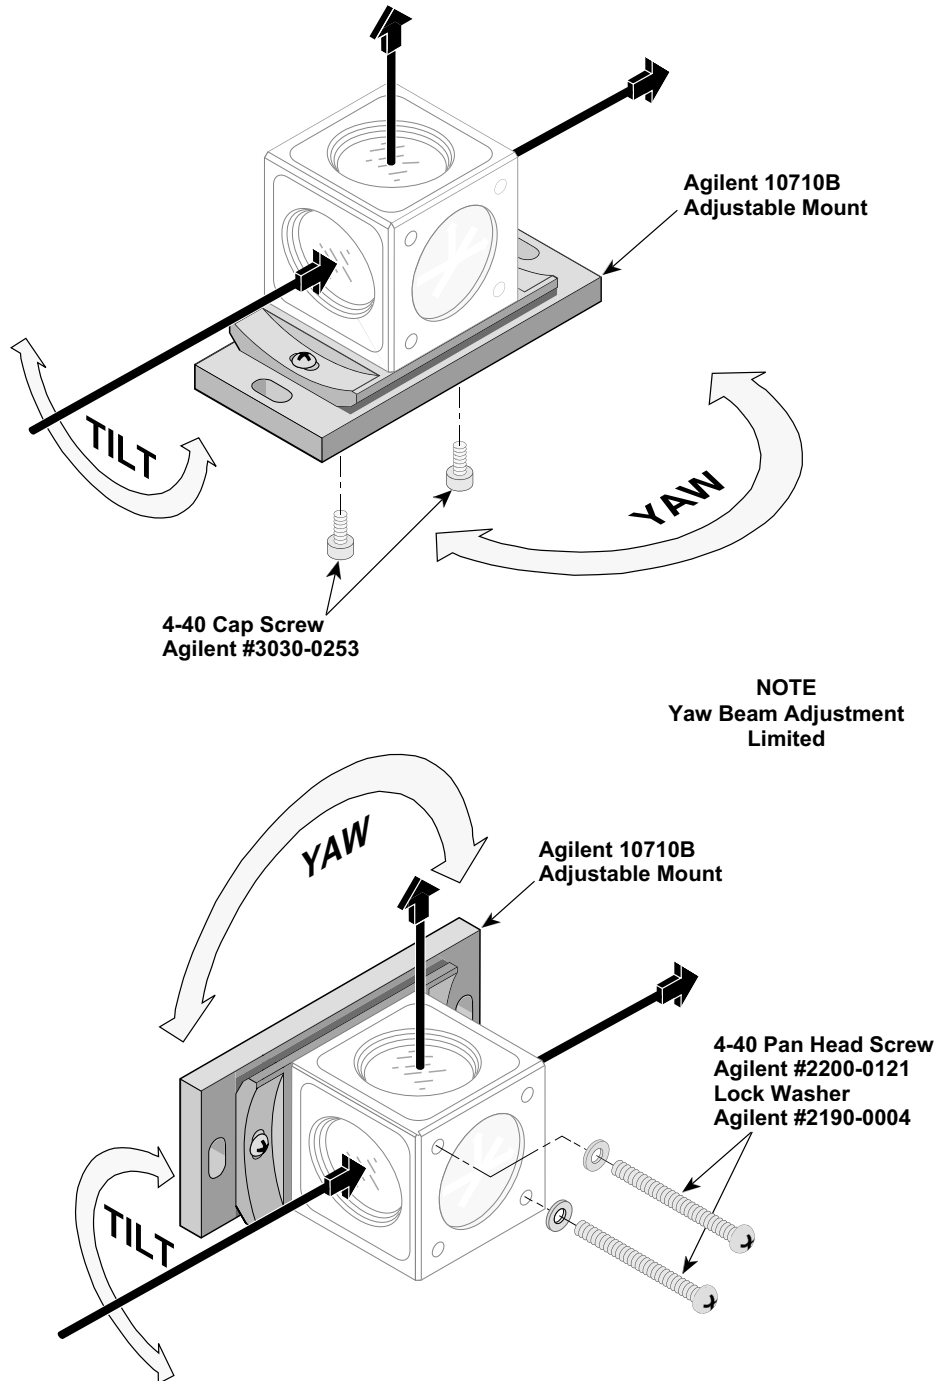

Figure 4-3. Vertical plane mounting using the Agilent 10710B adjustable mount
2. Figure 4-3 shows how to mount the beam splitting and beam bending optics or the single-beam interferometer in the vertical plane, using the Agilent 10710B Adjustable Mount.